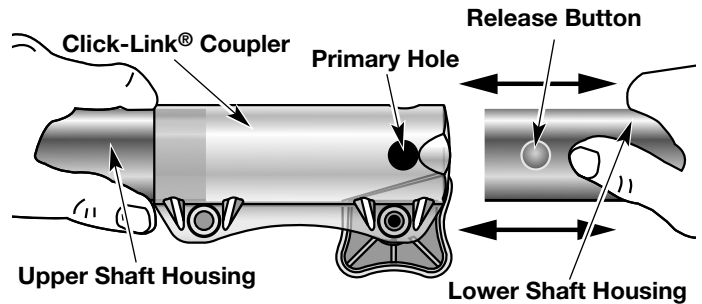

Fig. 25
3. While firmly holding the upper shaft housing, pull the cutting attachment or add-on straight out of the Click-Link® coupler (Fig. 25).
2. While firmly holding the add-on, push it straight into the Click-Link® coupler (Fig. 25).